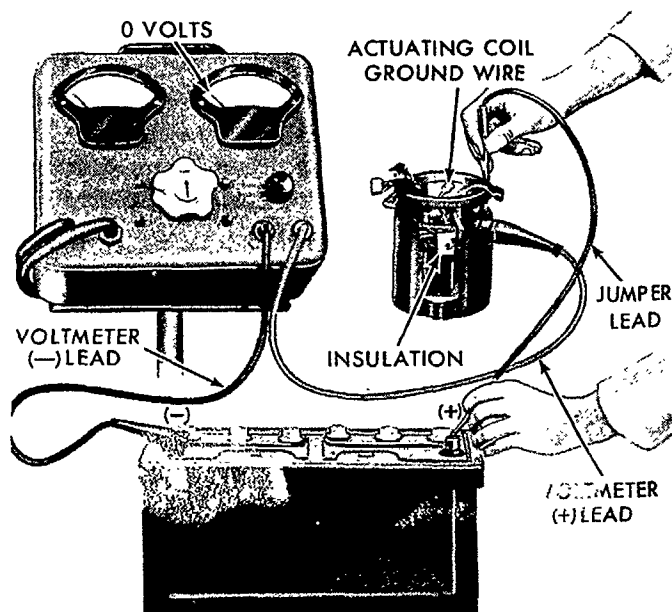

Figure 33
1. **4½-Inch Starting Motor:** Complete steps 1 through 7 of the disassembly procedure, page 32, and refer to Figure 33 when performing the test.